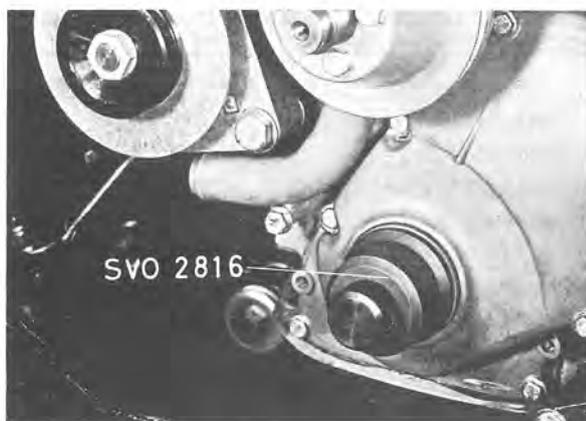

Fig. 2-31. Fitting oil seal
4. Remove the oil seal. Lubricate the sealing lip on the new seal and fit the seal with drift SVO 2816, see Fig. 2-31.